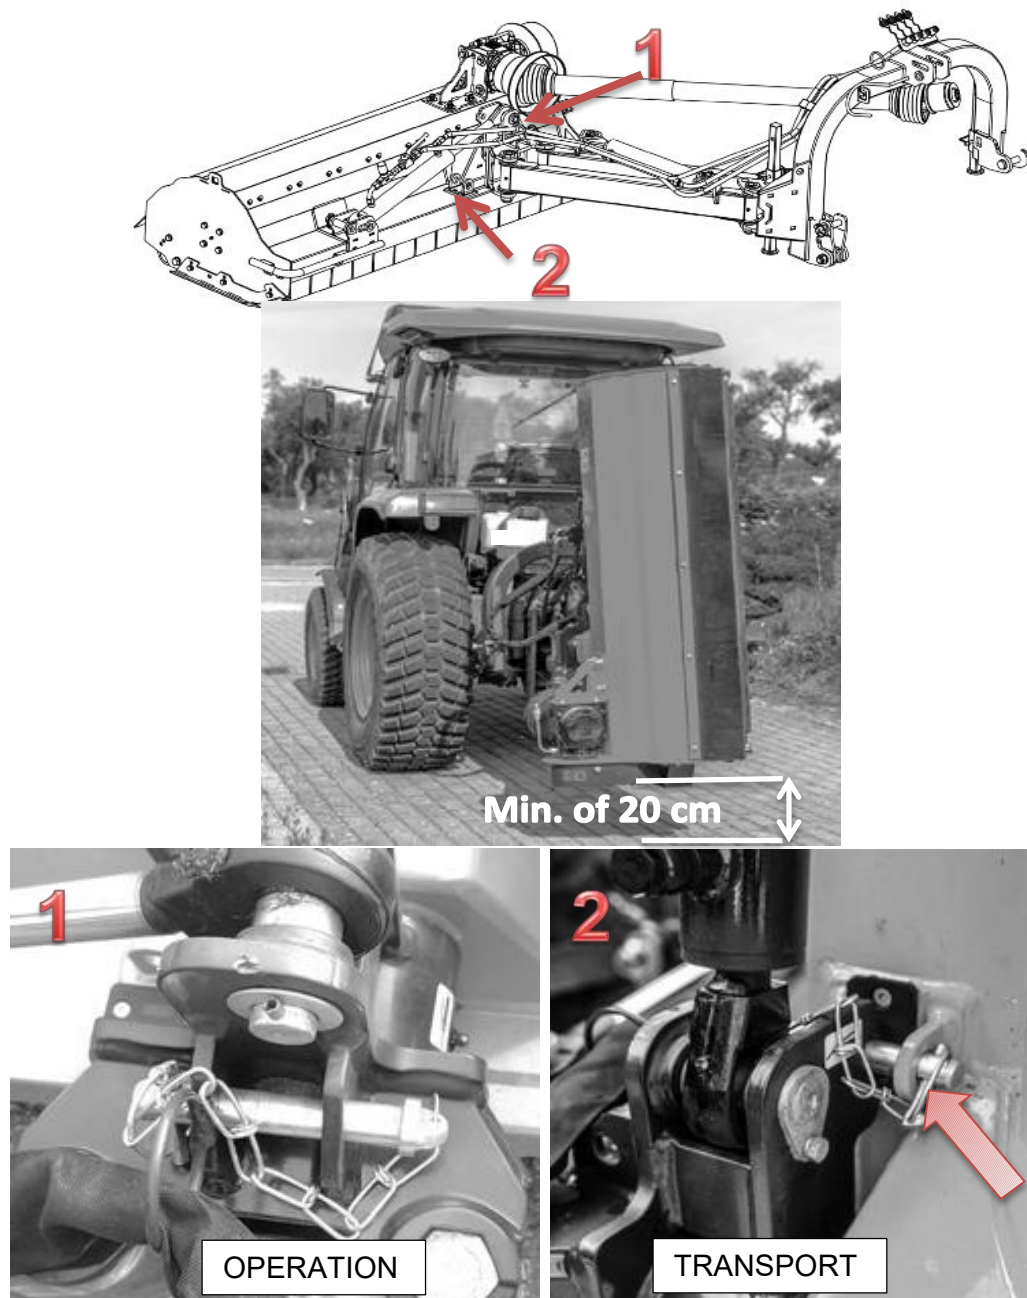

Figure 9. Vertical transport position
- In order to transport the machine in the vertical position shown in Figure 9, the machine must be lifted and, by folding the cylinder on the body, placed in this position. The machine in this position must be at
a minimum of 8.00" from the ground. It is also necessary to reposition the transport lock pin to the location marked with the arrow in Figure 9.